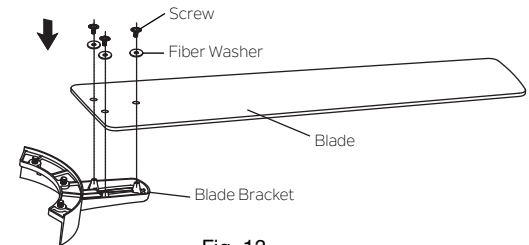

Fig. 13
Step 1. Position the blade over the blade bracket with threaded posts showing. Make sure the bottom edge of the blade is fully seated against the blade bracket. With a Phillips screwdriver, start a blade screw and washer into the blade bracket (do not tighten) and repeat for the 2 remaining blade screws and washers. Tighten each screw securely starting with the center screw. Make sure the blade is straight. Repeat steps for the remaining blades. (Fig. 13)